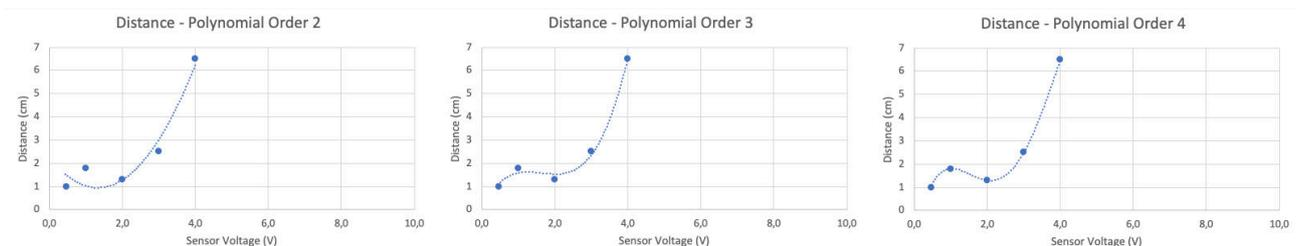

Figure 9: Compare Polynomial Order
6. To determine the order of the function that should be used, simply increase the Order and compare the function (see Figure 9). The user can decide how exact the function will be. A higher order will result in greater correlation while increasing the number of parameters.